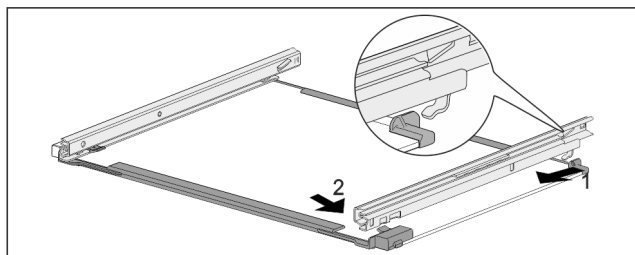

Fig. 201 Glass shelf with rails
- Hook in rail at the back. Fig. 201 (1)
- Hook in rail at the front. Fig. 201 (2)